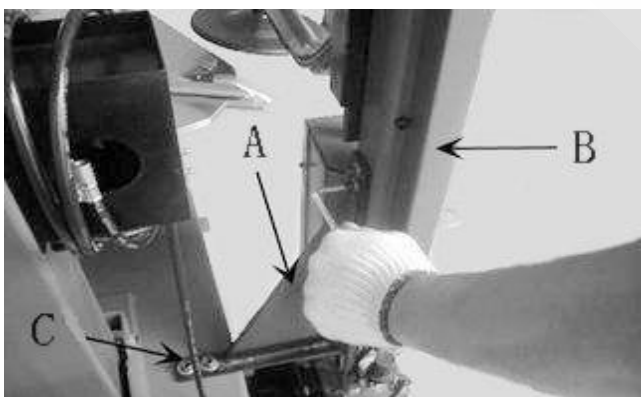
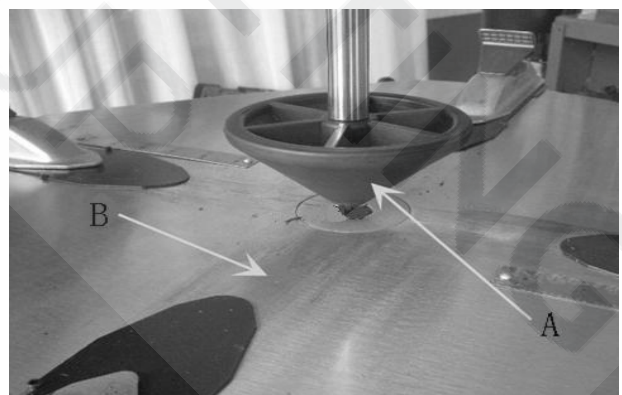
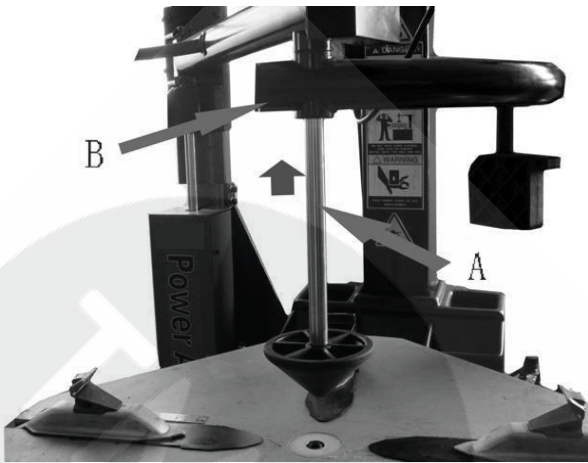

Fig 7-4
Fig 7-6
Fig 7-7
7.1.5 Use the fix supporting bracket (Fig7-4 A) to connect the body bracket and the body and insert the screw to fix
7.1.7 Connect the air source, insert the press cone roller connect rod (Fig 7-6 A) into the rotation shaft hole(Fig7-6 B) of the rotation arm. Handle manual direction change valve to make the tip of the press cone roller coincide to the center of the turntable (Fig7-7) . If not coincide, use the screw to adjust the position of the base(Fig7-4) to realize the coincide. After adjustment, fix the bolt.